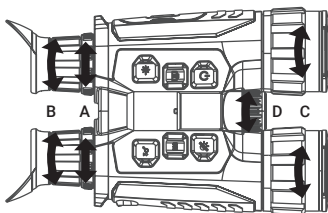

FIGURE 2-5. FOCUS ADJUSTMENT
5. Adjust the interpupillary distance by moving the eyepieces (Fig.2-5, A) farther or closer to each other.
6. Rotate the diopter adjustment rings (Fig.2-5, B) until the on-screen display (OSD) text or image is clear. Once completed, diopter adjustment will no longer be needed again until the device is used by a new user.
7. Point the device towards the target of the view. Bring the object into focus by rotate the objective focus rings (Fig.2-5, C).
8. In the optical NIGHT or AUTO mode slightly rotate the IR focus (Fig.2-5, D) to adjust the beam angle of the infrared light. The broader the beam angle is, the more spread-out but less intense the light will be.